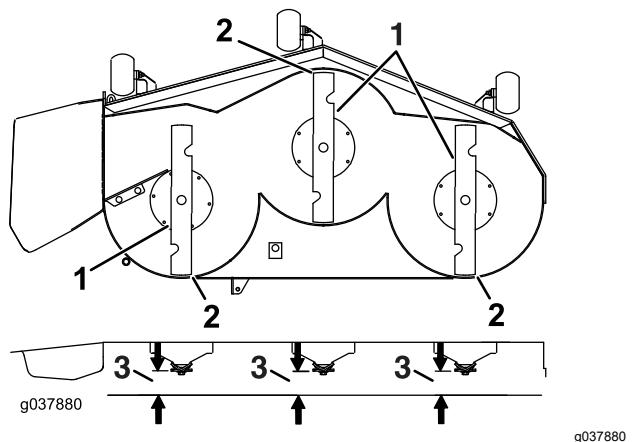

Figure 101
7. Check the front-to-rear blade level (Figure 101). Ensure the front blade tip is lower than the rear blade tip as shown in the block height and rake table. If adjustment is needed, continue with this procedure.